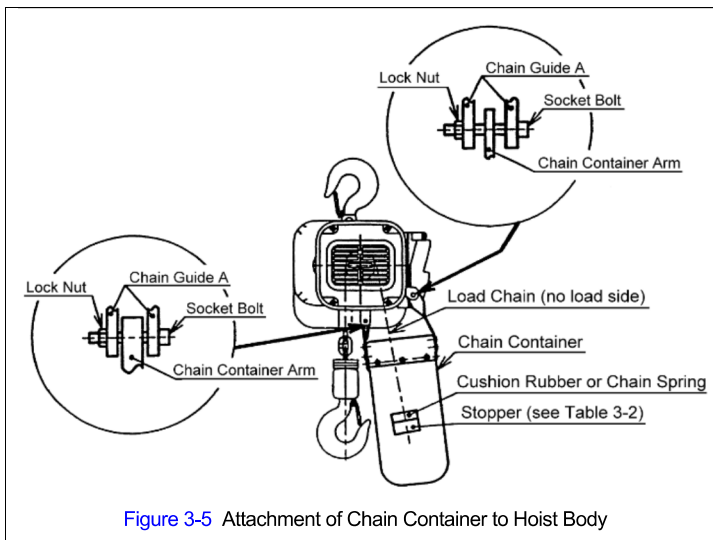

Figure 3-5 Attachment of Chain Container to Hoist Body
- 3.2.3 When the optional canvas chain container is used, unfold it fully and install it on the hoist body as shown in Figure 3-5. In this case the free end of the chain is not attached to the hoist body and the chain stopper is installed on the third link from the free end. To place the chain into the chain container, feed the chain into the chain container beginning with the free end. Take care to avoid twisting or tangling the chain. NEVER put all the chain into the container at once. Lumped or twisted chain may: